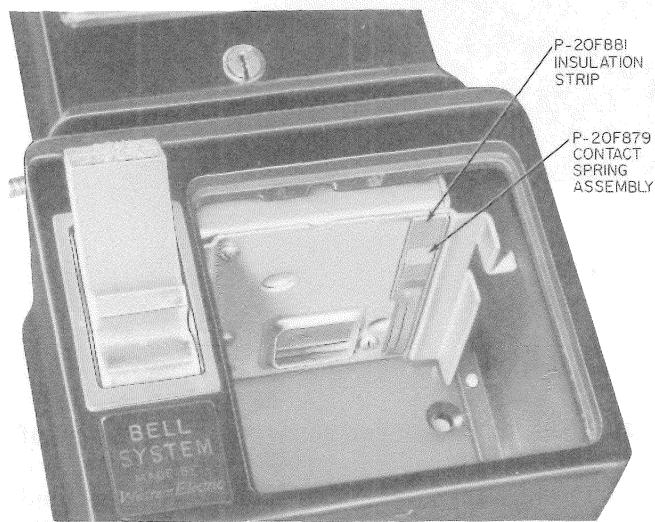
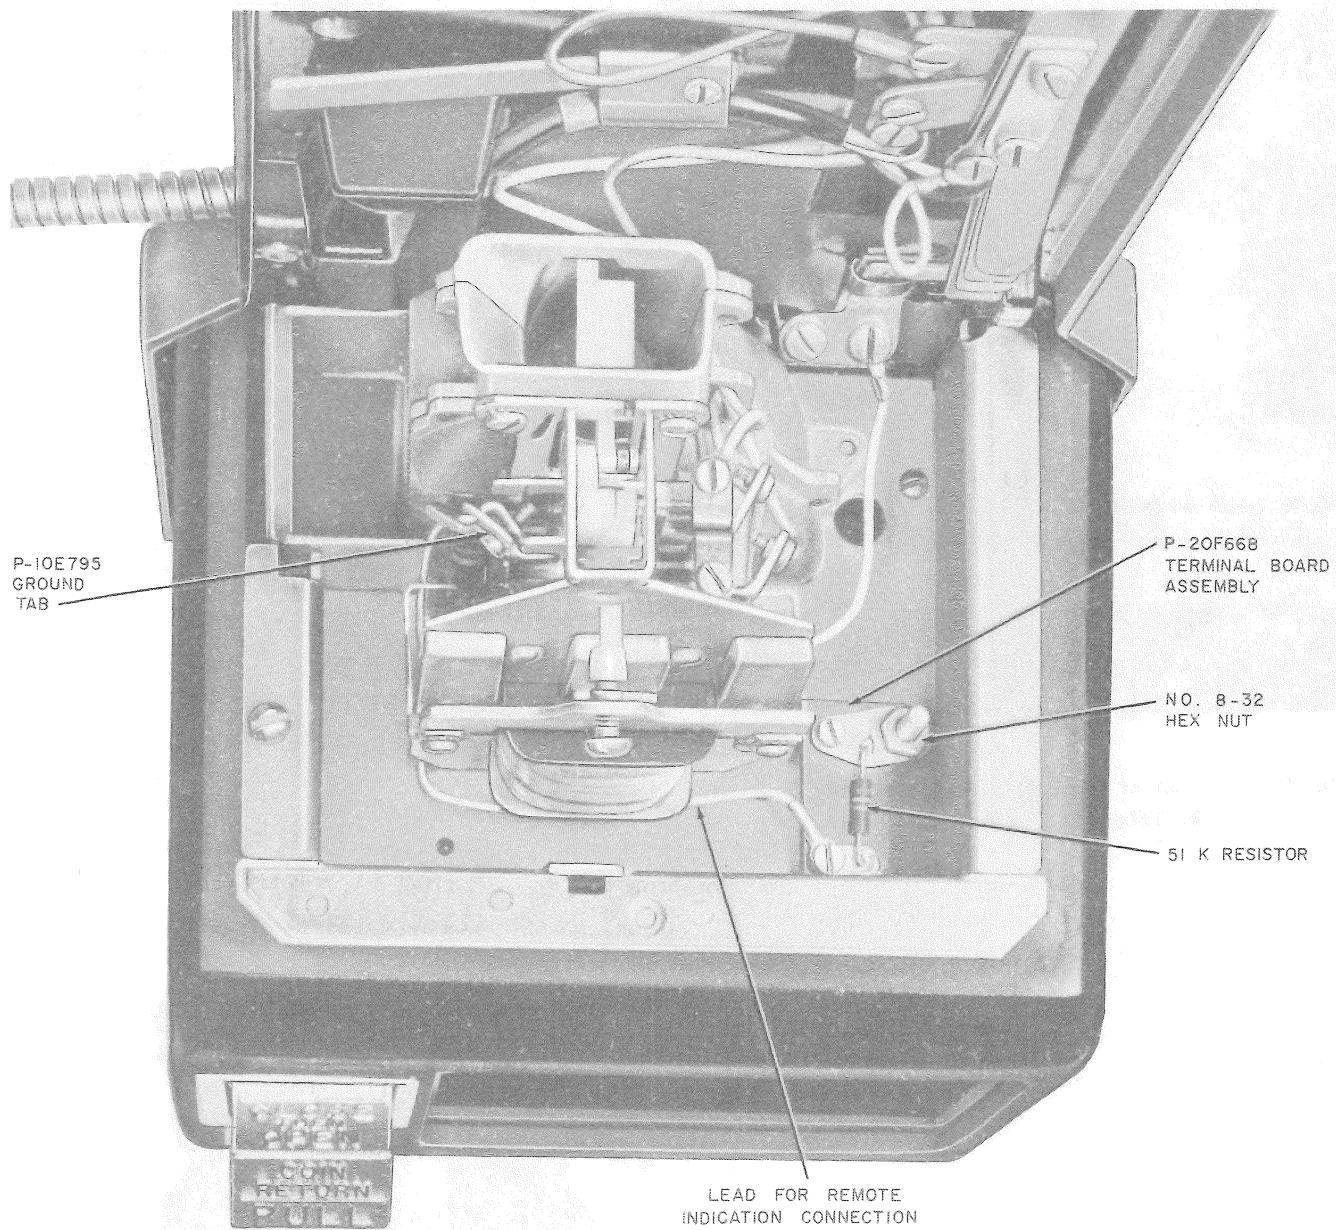

Fig. 7—Installation of Insulation Strip and Contact Spring Assembly
Fig. 8—Installation of Terminal Board Assembly
- (4) Using the 1/4-inch drill described in 3.01, drill the hole through the housing.
- (5) Remove the screw and drilling template.
- (6) Using the 1/4-inch drill, enlarge the hole where the screw was removed.
- (7) Using a suitable file, remove all burrs from the 1B rail.
- (8) Remove the C-clamp.
- (9) Remove all drill chips from the telephone set.
- (10) Position the insulation strip against the 1B rail with the boss on the strip in the 1/4-inch mounting screw hole (Fig. 7). Hold the contact springs in place with the stud extending through the hole drilled in the base, and fasten the terminal board in place on the housing base with the nut provided (Fig. 8).
- (11) Reinstall totalizer and coin chassis in 1A/1C coin telephone sets [See 3.05(7)].
- (b) Thread (BK) and (Y) leads of chassis through hole on coin hopper. Connect (BK) lead to terminal 3 and (Y) lead to terminal G of coin relay.
- (8) Position the insulation strip against the 1B rail with the boss on the strip in the 1/4-inch mounting screw hole (Fig. 7). Hold the contact springs in place with the stud extending through the hole drilled in the base, and fasten the terminal board in place on the housing base with the nut provided (Fig. 8).
- 4.02** The lead provided with the D-180042 kit is equipped with a screw clamp to facilitate fastening to the ground tab (P-10E795) on the coin relay (Fig. 8). Care must be taken not to alter the adjustment of the coin relay by bending the spring member. Connect the spade tip of the lead to the front terminal on the terminal board.